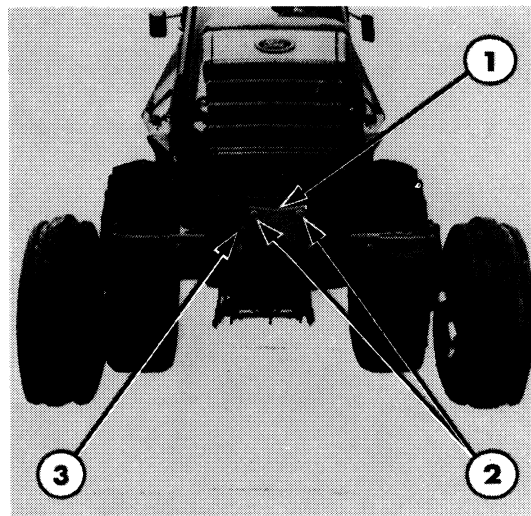

Figure 17
6. Remove all bolts securing the front support bracket to the main front support, Figure 17.